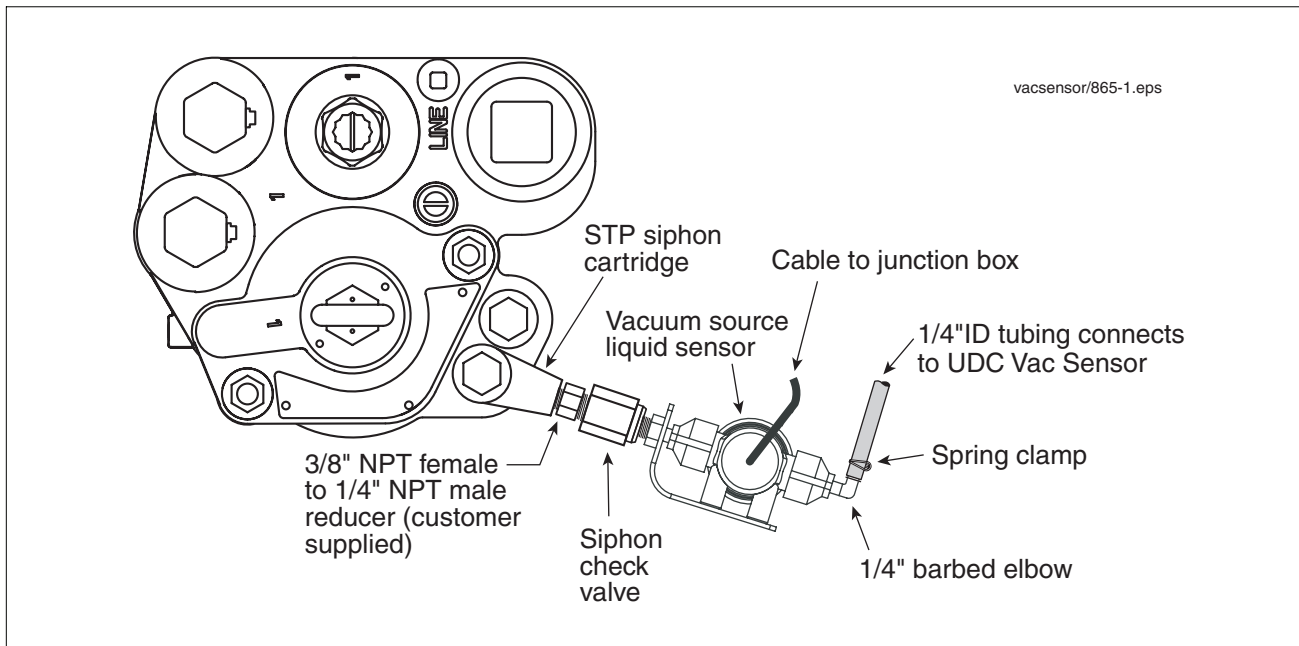
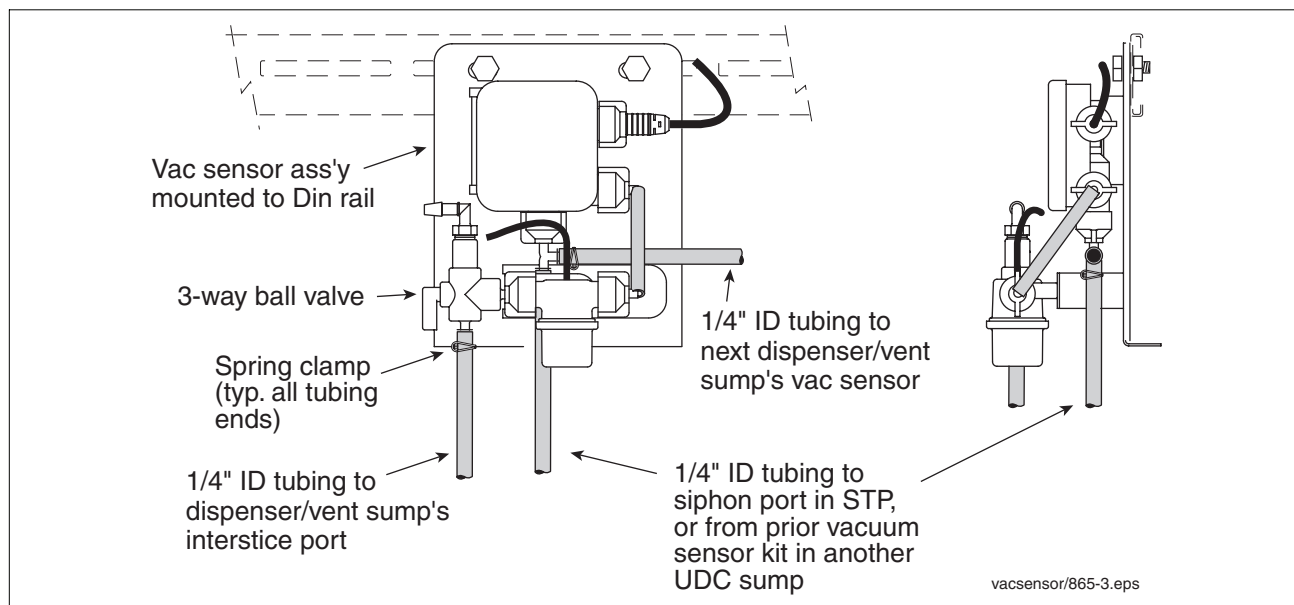

Figure 1. Attaching Vac Source Line Liquid Sensor to STP siphon port
Figure 5. Connecting vacuum tubing to Vac Sensor barbed fittings
1. Apply an adequate amount of fresh, UL classified for petroleum, non-setting thread sealant to the threads of the 1/4" NPT fitting on the Vacuum Source Line Liquid Sensor and screw it into the STP siphon port's siphon check valve (see Figure 1).
5. Measure a length of 1/4" ID tubing that will connect at one end to the Vac Source Line Liquid Sensor in the STP sump (ref. Figure 1) and at the other end to Vac Sensor in the first dispenser/vent sump (see Figure 5). Plan enough tubing to avoid its having sharp bends or being stretched. You may choose to run the tubing within a protective conduit between sumps.